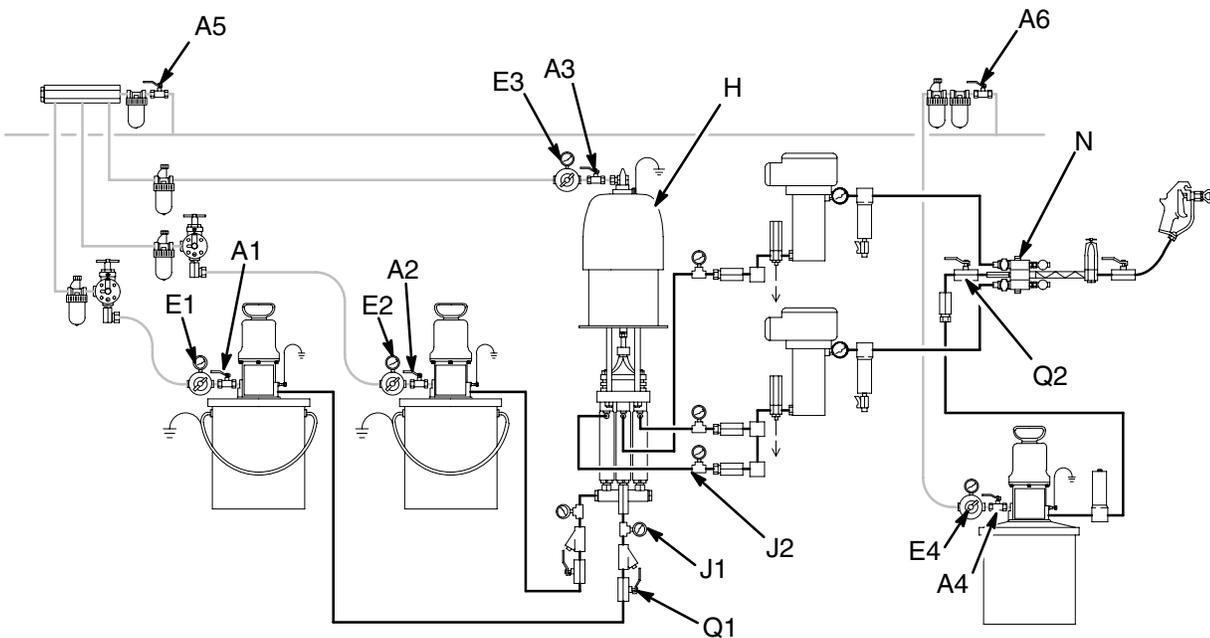

Fig. 14
2. Be sure both of the fluid shutoff valves (Q1) are open. See Fig. 14.
4. Be sure the feed pump air regulators (E1,E2) are at minimum pressure. See Fig. 14.
5. Open the main master air valve (A5). See Fig.14.
6. Open the hardener pump master air valve (A1). See Fig. 14.
9. When the hardener lines are flushed, close the mixer manifold handle and close the drain valve (P1). Close the air valve (A1). See Fig.14.
- a. Be sure the solvent pump air regulator (E4) is at minimum pressure. See Fig.14.
- b. Open the solvent pump main master air valve (A6) and then open the pump air valve (A4). See Fig. 14.
- e. Close the solvent line shutoff valve (Q2). See Fig.14.